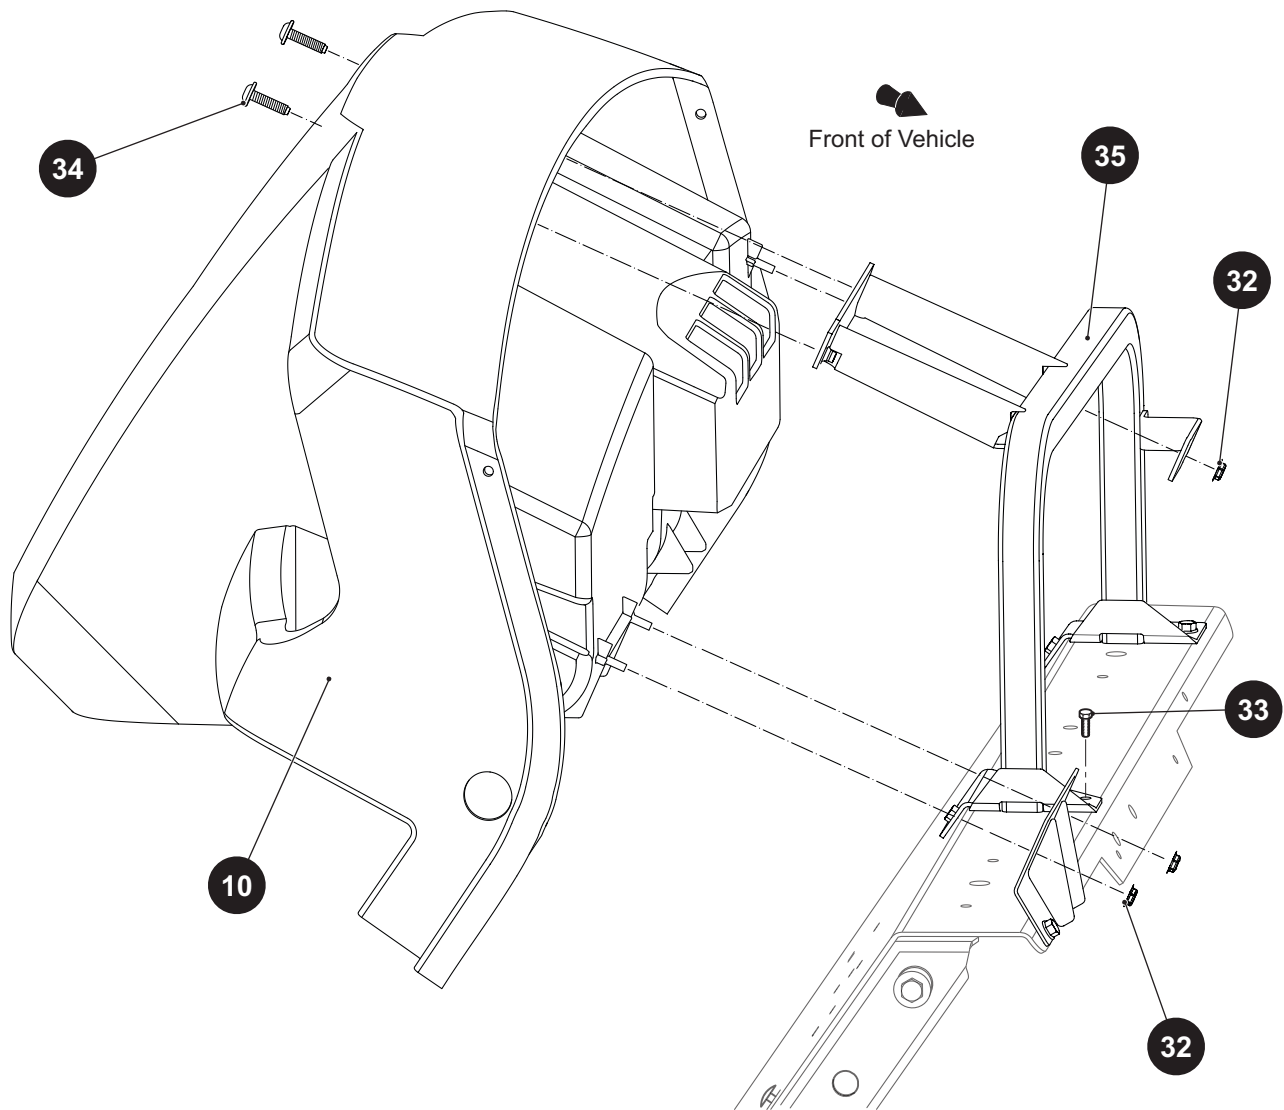

Figure 8 Instrument Panel (Back)
4. Remove the screws (34) securing the instrument panel (10) to the support weldment (30) (Ref. Figure 8).
5. Remove the self threading nuts (32) securing the instrument panel (10) to the support weldment (35).
6. If the support weldment (35) is damaged, remove it by removing the bolts (33) securing it to the frame.